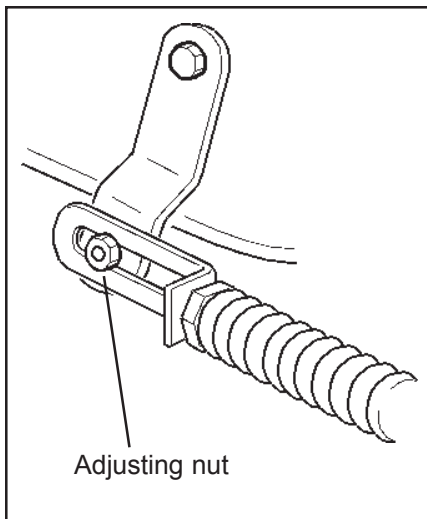

Figure 1
STEP 4. Before connecting the shifter cable to the shifter, loosen, but do not remove, the adjusting nut at the front end of the shifter cable where it connects to the transmission shift lever. See **figure 1**. Move the transmission shift lever as far back as it will go, and then move it forward three clicks. This is the Neutral position. Move the shifter to the Neutral position. (See the Operation section at the end of these instructions.) Connect the cable to the REAR side of the cable bracket on the shifter using the two self tapping 1/4" X 5/8" screws provided with the kit. Snap the cable end over the ball on the shifter output lever. Tighten the adjusting nut on the shifter cable.